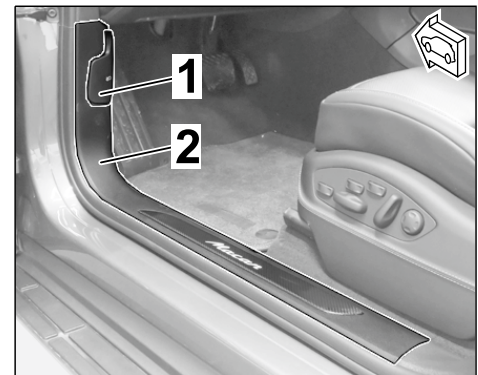

Figure 14
1.5.5 Remove front inner door sill trim (⇒ Figure 14) (⇒ Workshop Manual '680519 Removing and installing front inner door sill trim').